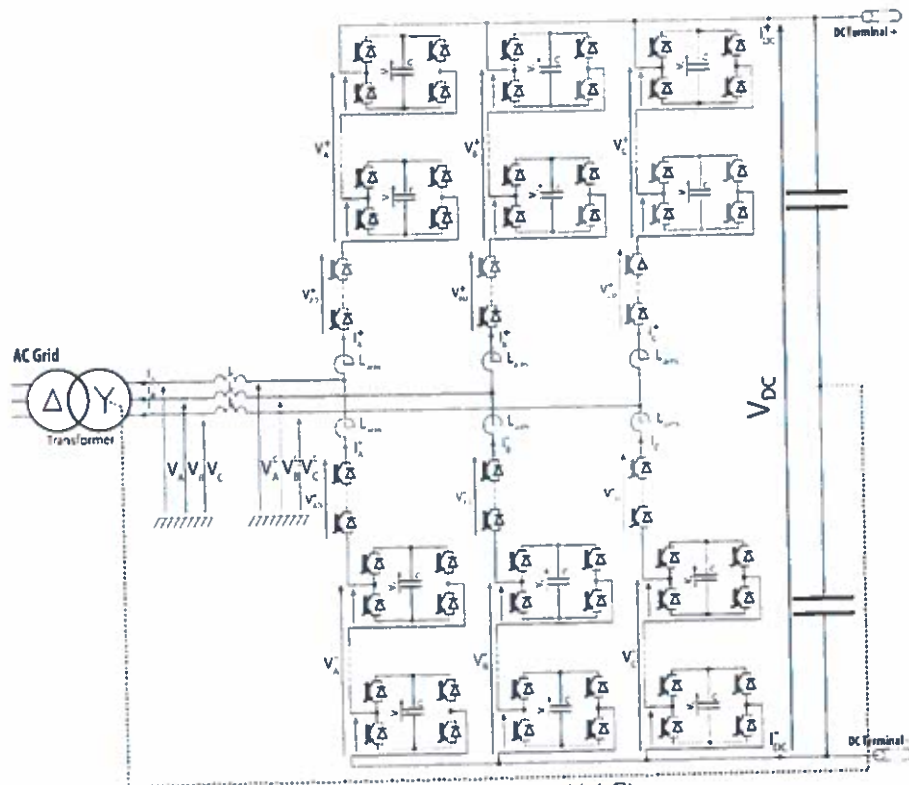

Figure 6.1: Alternate Arm Converter (AAC)
- a) Explain how the Alternate Arm Converter (shown in Figure 6.1) operates.